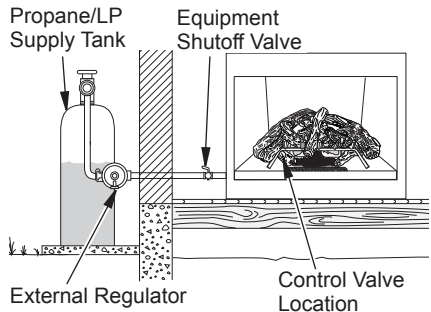

Figure 15 - Checking Gas Joints for Propane/LP Gas
3. Check all joints from gas meter to equipment shutoff valve for natural gas or propane/LP supply to equipment shutoff valve for propane/LP (see Figure 15 or 16). Apply a noncorrosive leak detection fluid to all joints. Bubbles forming show a leak.
4. Check all joints from equipment shutoff valve to control valve (see Figure 15 or 16, page 16). Apply a noncorrosive leak detection fluid to all joints. Bubbles forming show a leak.